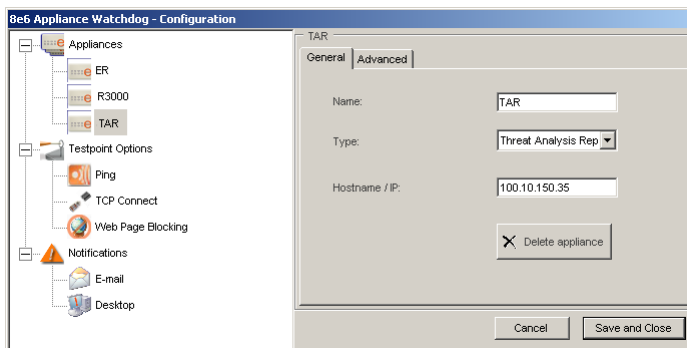

Fig. 1:3-7 Delete an appliance
4. After all appliances to be deleted have been removed from the tree, click **Save and Close** to stop the service, remove the configuration for the appliance(s) from Watchdog, and to display the restart service pop-up box (see Fig. 1:3-4).